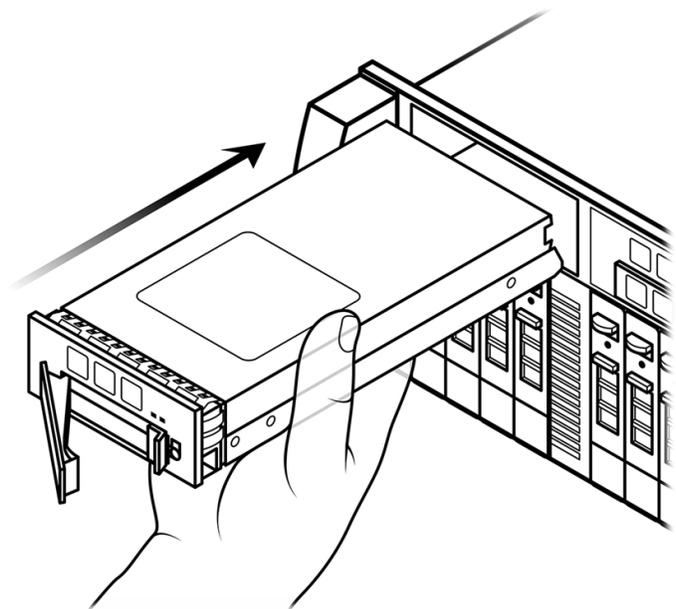

Figure 8-8. Inserting the Replacement NVRAM Module
2. Align the new NVRAM module with the slot and carefully slide it in until it is fully seated in the slot and the front panel is flush with the FlashArray//M front panel. See Figure 8-8.